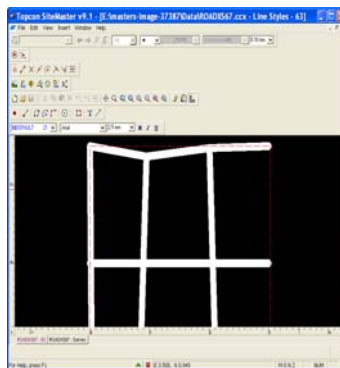

Figure 15-5. Line Style Editor
2. To add a line to the **Line Style Manager** from the library, click **Copy from Library**, select a line, and then click **OK**. The line appears in the **Line Style Manager** (Figure 15-5) and can be edited without altering the line in the library.